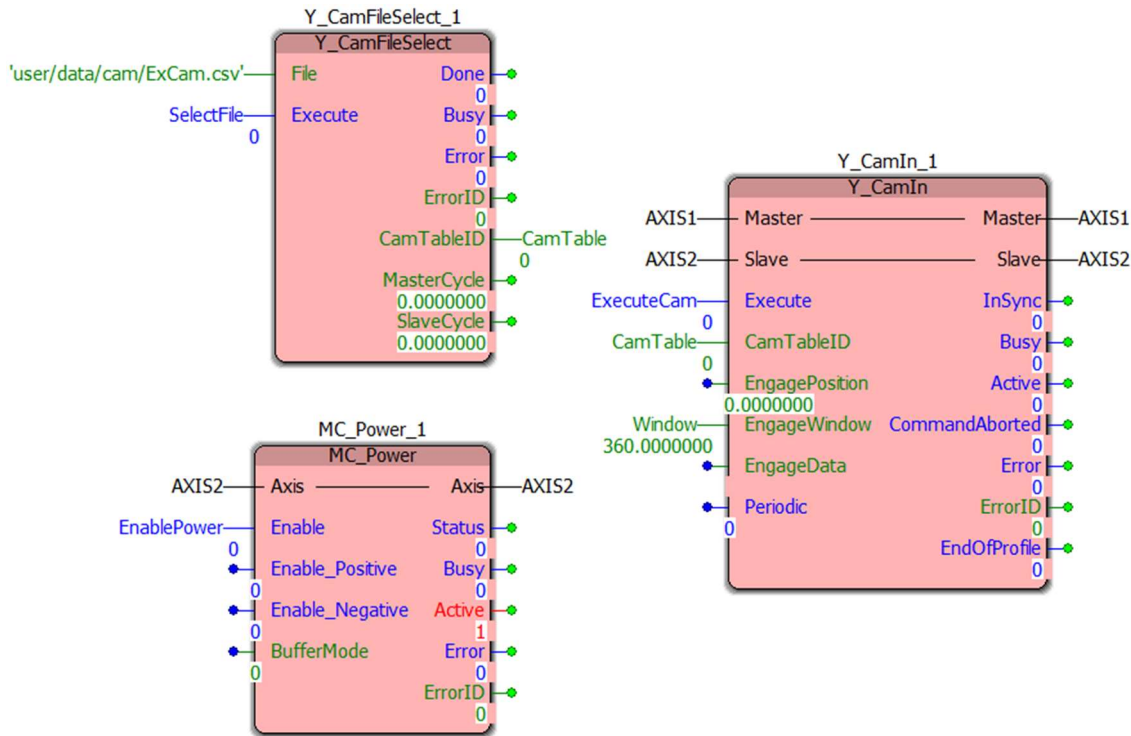

Figure 24: Program in Debug Mode
- Finally, Download Changes and Switch to Debug Mode and the program should look like Figure 24.